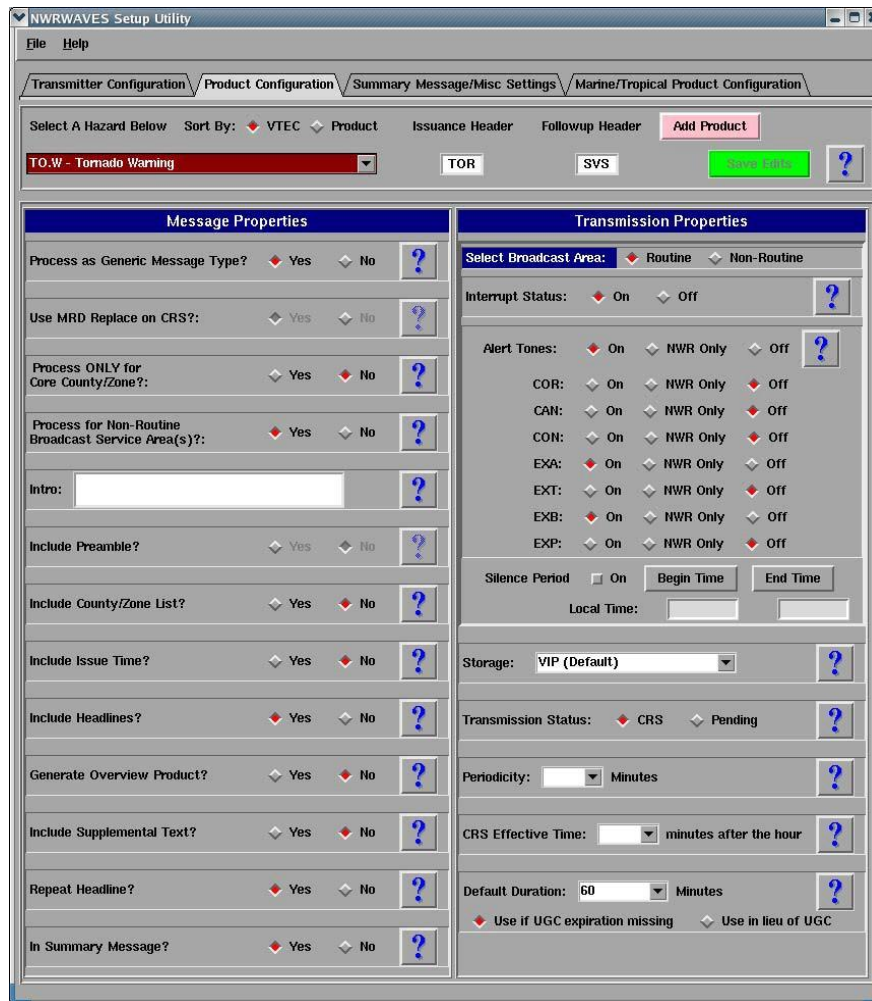

Figure 4 – Product configuration GUI
After you are done configuring your transmitters, click the **Product Configuration** tab (Figure 4)
Both product types (VTEC and non-VTEC) share many common configuration settings. VTEC products have additional unique configuration settings for alert tone settings, based on the VTEC action code. VTEC products are also tracked internally by NWRWAVES, and the advanced feature of MRD Replace is used to facilitate better automation of information replacement in the BMH Broadcast Cycle. **In the NWRWAVES distribution file, all these configuration settings are set to “No” and the product dissemination is set to the “Pending” side of the NWRWAVES Browser (as they are shown in Figure 4 above).** Sites will need to adjust these settings *by product* to meet their local needs.
- 3) Each configuration item on the GUI has a question mark box to its right. Click on that question mark box to see more information on what that particular item governs. Referencing Figure 4 above, here is a breakdown of the interface: